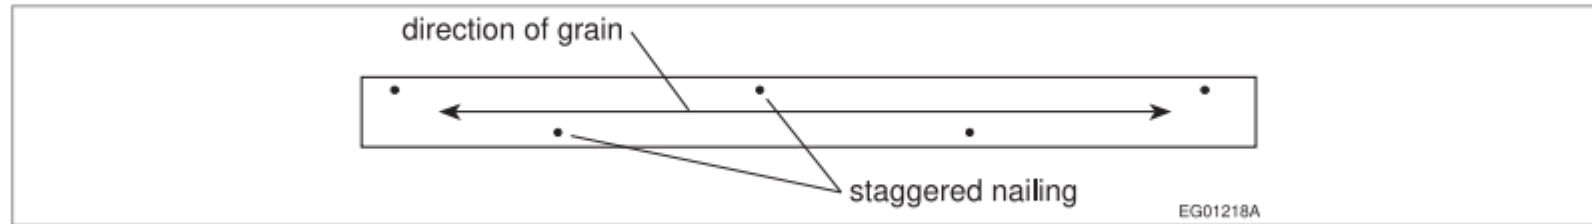

Figure A-9.23.3.3.(1)
A-9.23.3.3.(1) Prevention of Splitting. Figure A-9.23.3.3.(1) illustrates the intent of the phrase “staggering the nails in the direction of the grain.”